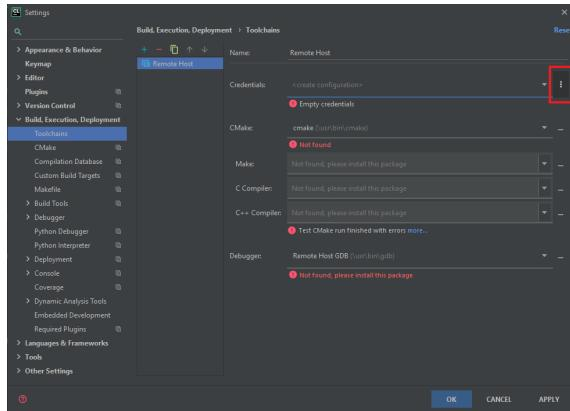

Figure 4.11: CLion Remote Toolchain Credentials Button
4. Add new device credentials using the three dots to the right of the credentials field. (Fig. 4.11).